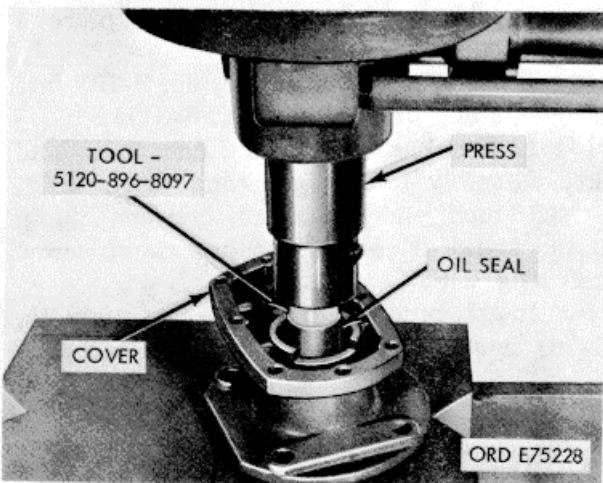

Figure 3-76. Governor shaft oil seals-removal/installation
move two oil seals (11) from cover as shown in figure 3-76.